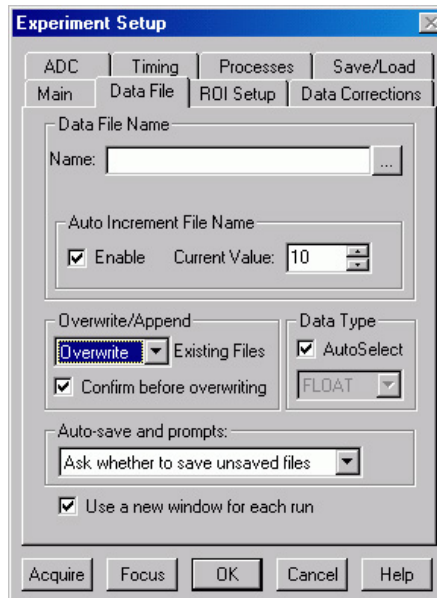

Figure 46. Data File dialog
8. On the **Data File** tab page (Figure 46), make the following selections.